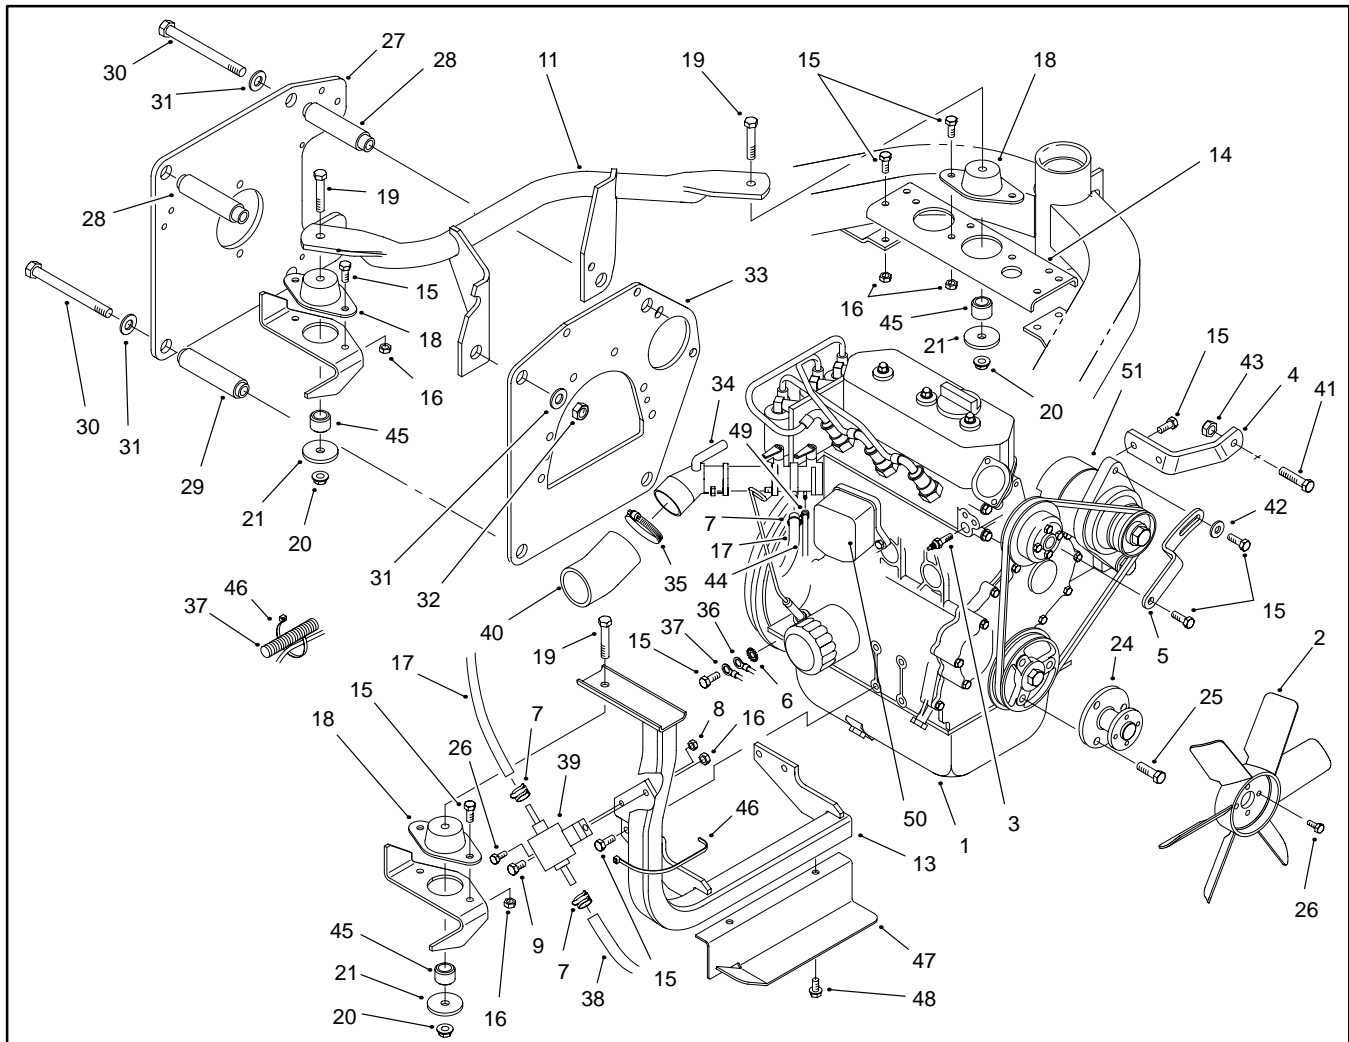

Figure 18
- A. Disconnect air cleaner hose (40) from the carburetor adapter (34) (Fig. 18).
11. Remove fuel filter (39) to the front engine mount (13) (Fig. 18).